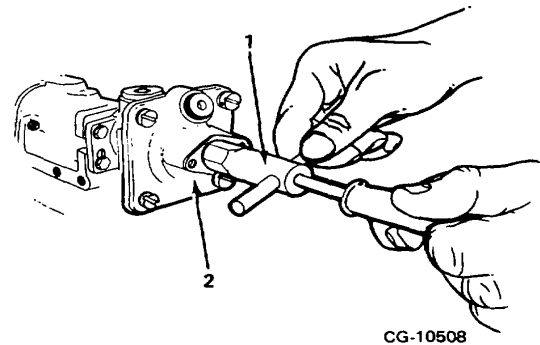

Figure 10. Adjusting Aneroid Cutback
- Using KDEP 1048 (Figure 10) turn socket head screw clockwise to increase power and fuel or counterclockwise to decrease power and fuel.